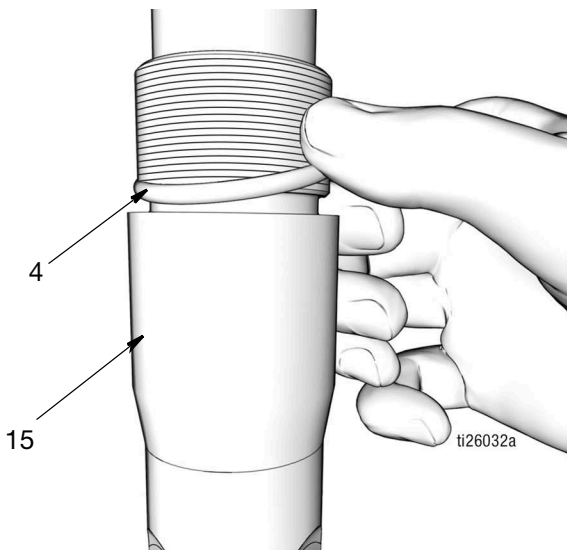

FIG. 43
- a. Use a clean cloth to wipe down the outlet check valve (15) and remove any dirt or contaminants. Inspect surface for any scratches or damage. Replace damaged parts.
- b. Apply a thin layer of grease to o-ring (4) Install o-ring around the outlet check valve (15) (FIG. 43).